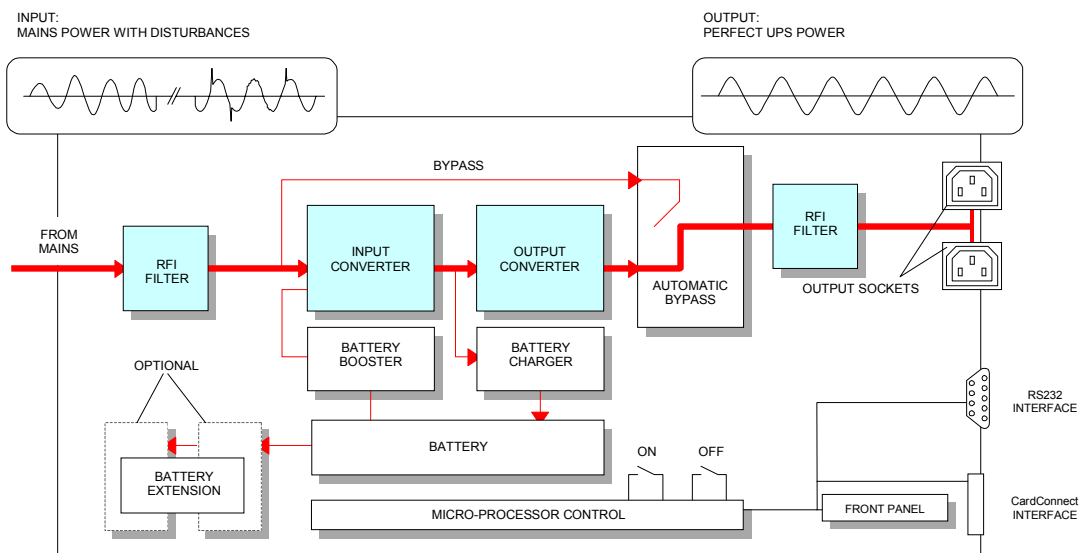

Figure 1 Block diagram of the **NetPro** 600-1500 UPS, mains present
The **NetPro** UPS stores electric energy in batteries housed in the unit. This allows the UPS to supply output power even when the incoming mains power is cut off completely. Energy is stored as Direct Current (DC), while input and output energy are Alternating Current (AC) in sine wave form. Therefore the UPS contains an input converter (AC to DC) and an output converter (DC to AC) (See fig.1).